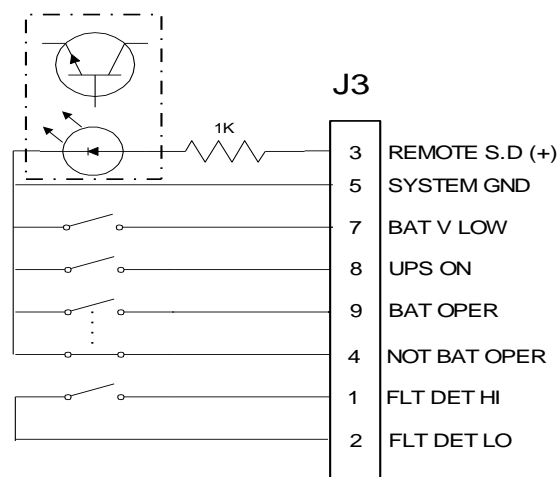

Figure 9 - Dry Contacts
Dry Contacts Interface is available through connector J3 (32), a D-Type 9P connector located on the back panel. This interface allows control and monitoring of the UPS by a server that does not have Ethernet or serial interface provision. Figure 9 below shows the dry contacts interface circuits. The pin assignment of J3 is shown on the next page.
Select the operation mode (UPS or By-Pass) by toggling the Common between Pin 6 and 7. (See Figure 9 below).